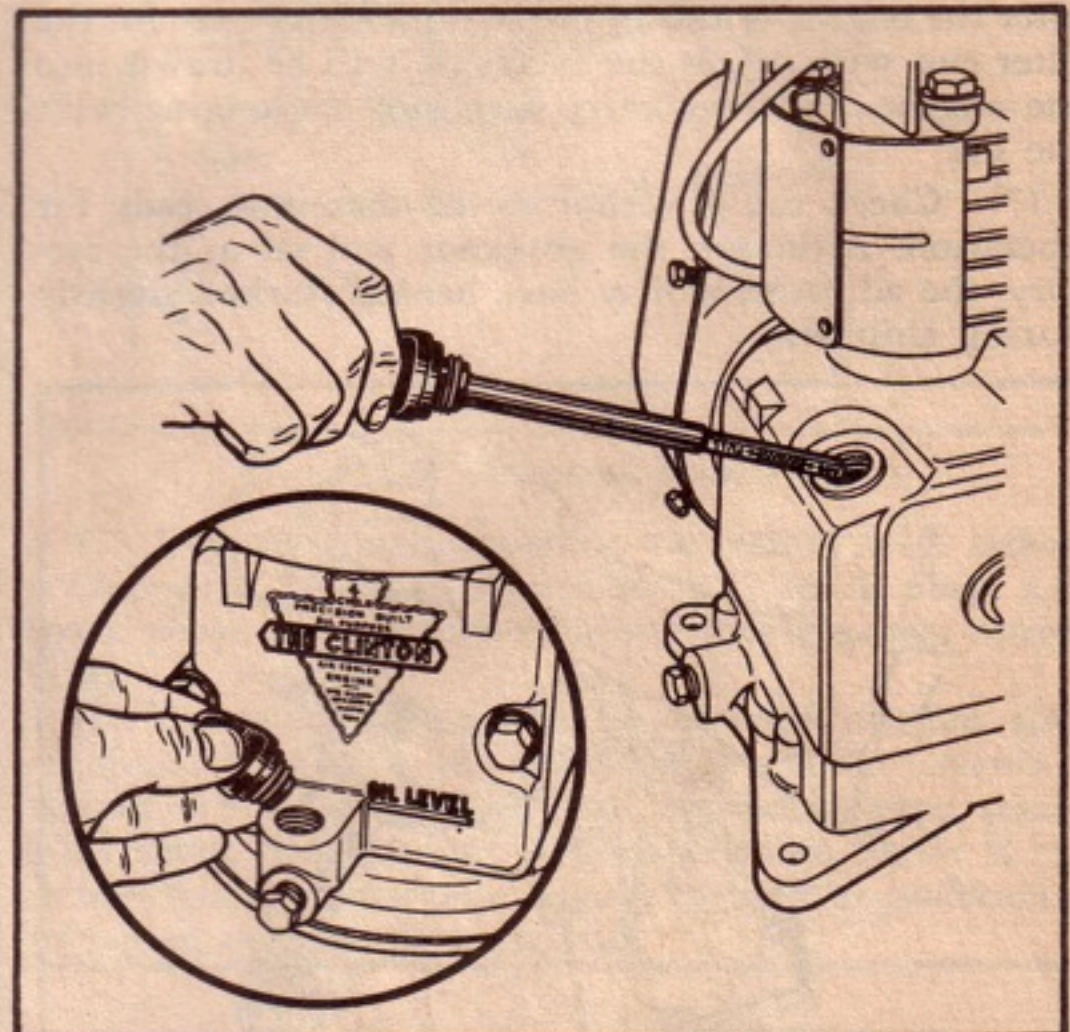

Figure B-1. Checking Oil in Crankcase
(1) Fill the crankcase with oil to the correct level. If the engine has a horizontal crankshaft, add oil until the level is up to the "FULL" mark on the dipstick. (See figure B-1.)